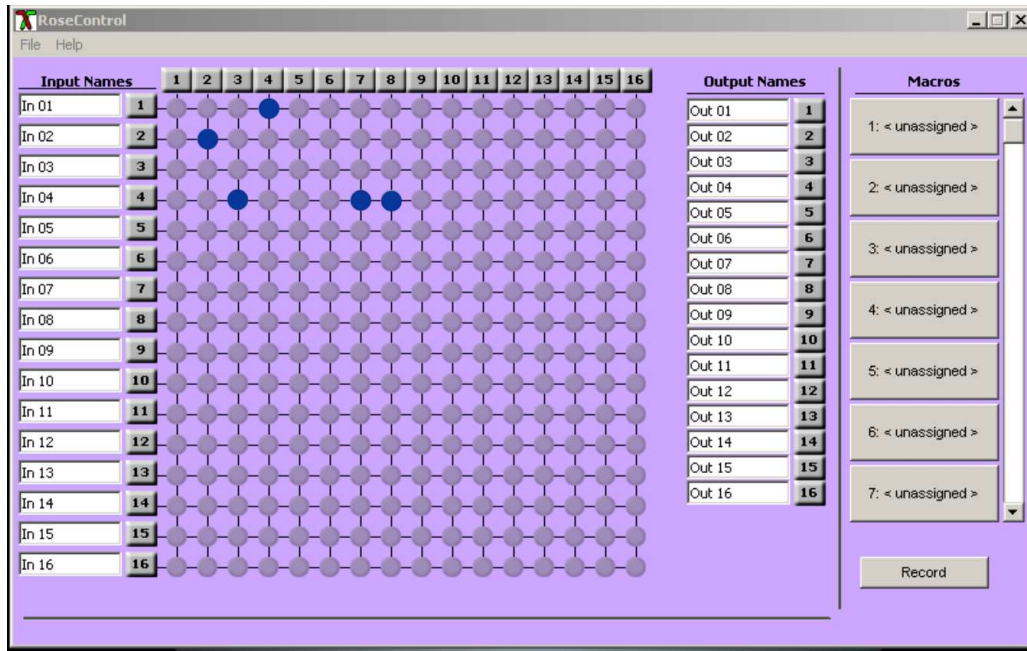

Figure 3. Rose Control Switching Matrix
9. When all fields are set to the correct values, click on the “OK” tab. The matrix OSD will display as shown in Figure 3.
In the example shown in Figure 3, Input 04 is connected to output 03, 07, and 08.